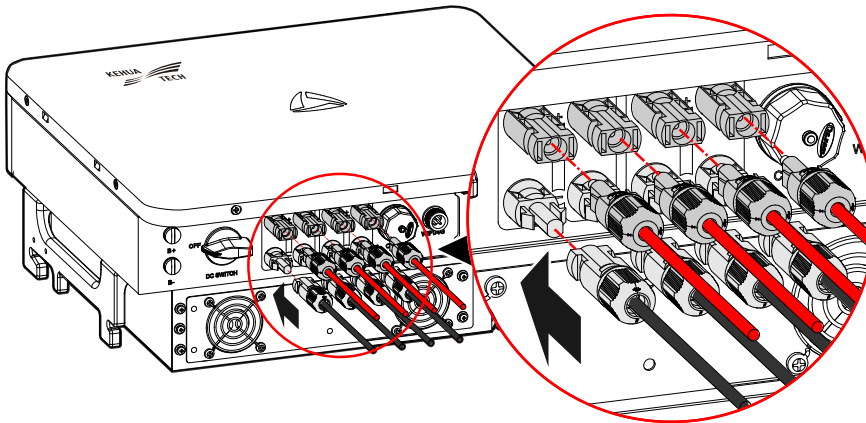
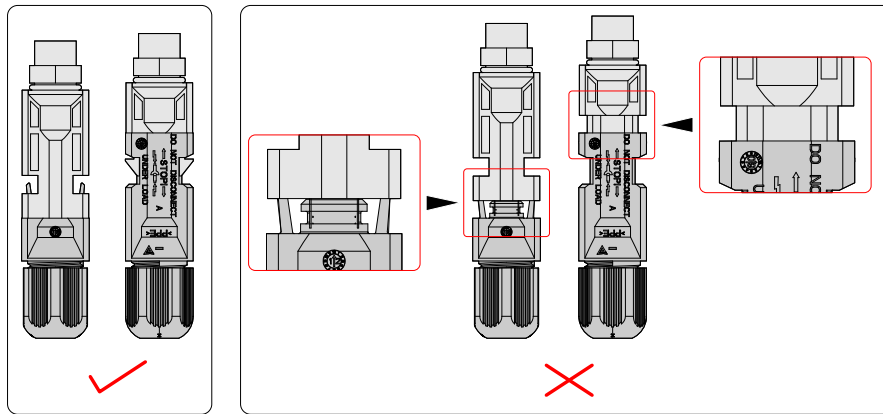

Figure3-21 Connect PV connectors
Figure3-22 PV connector installation method
- Step 6 Insert the positive and negative connectors into the PV "+" and "-" terminals at the bottom of the inverter respectively (as shown in Figure3-21). When you hear a click, it means the connection is good (as shown in Figure3-22) .